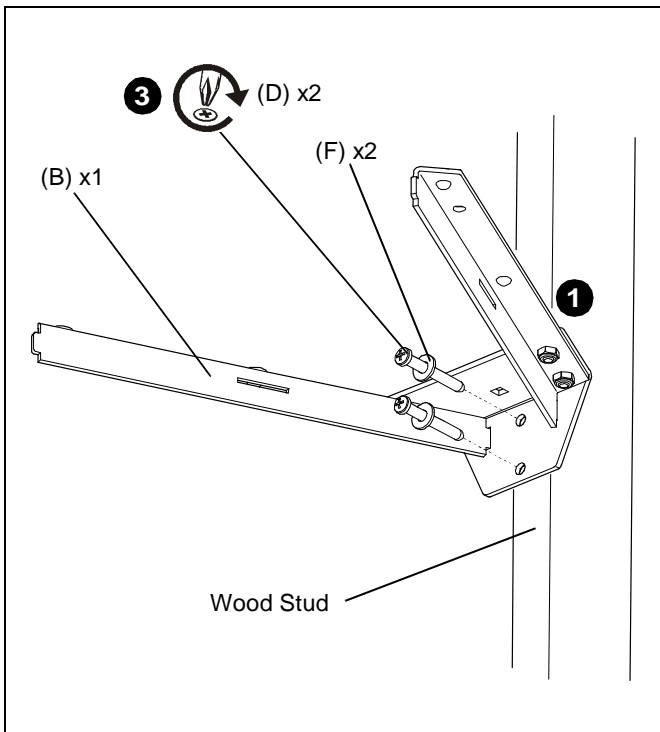

Figure 1
1. Place shelf base (B) in desired mounting location..
2. Level shelf base. (See Figure 1)
3. Secure shelf base to wood stud using two 1/4" x 2" Phillips head screws (D) and two 1/4" flat washers (F). (See Figure 1)